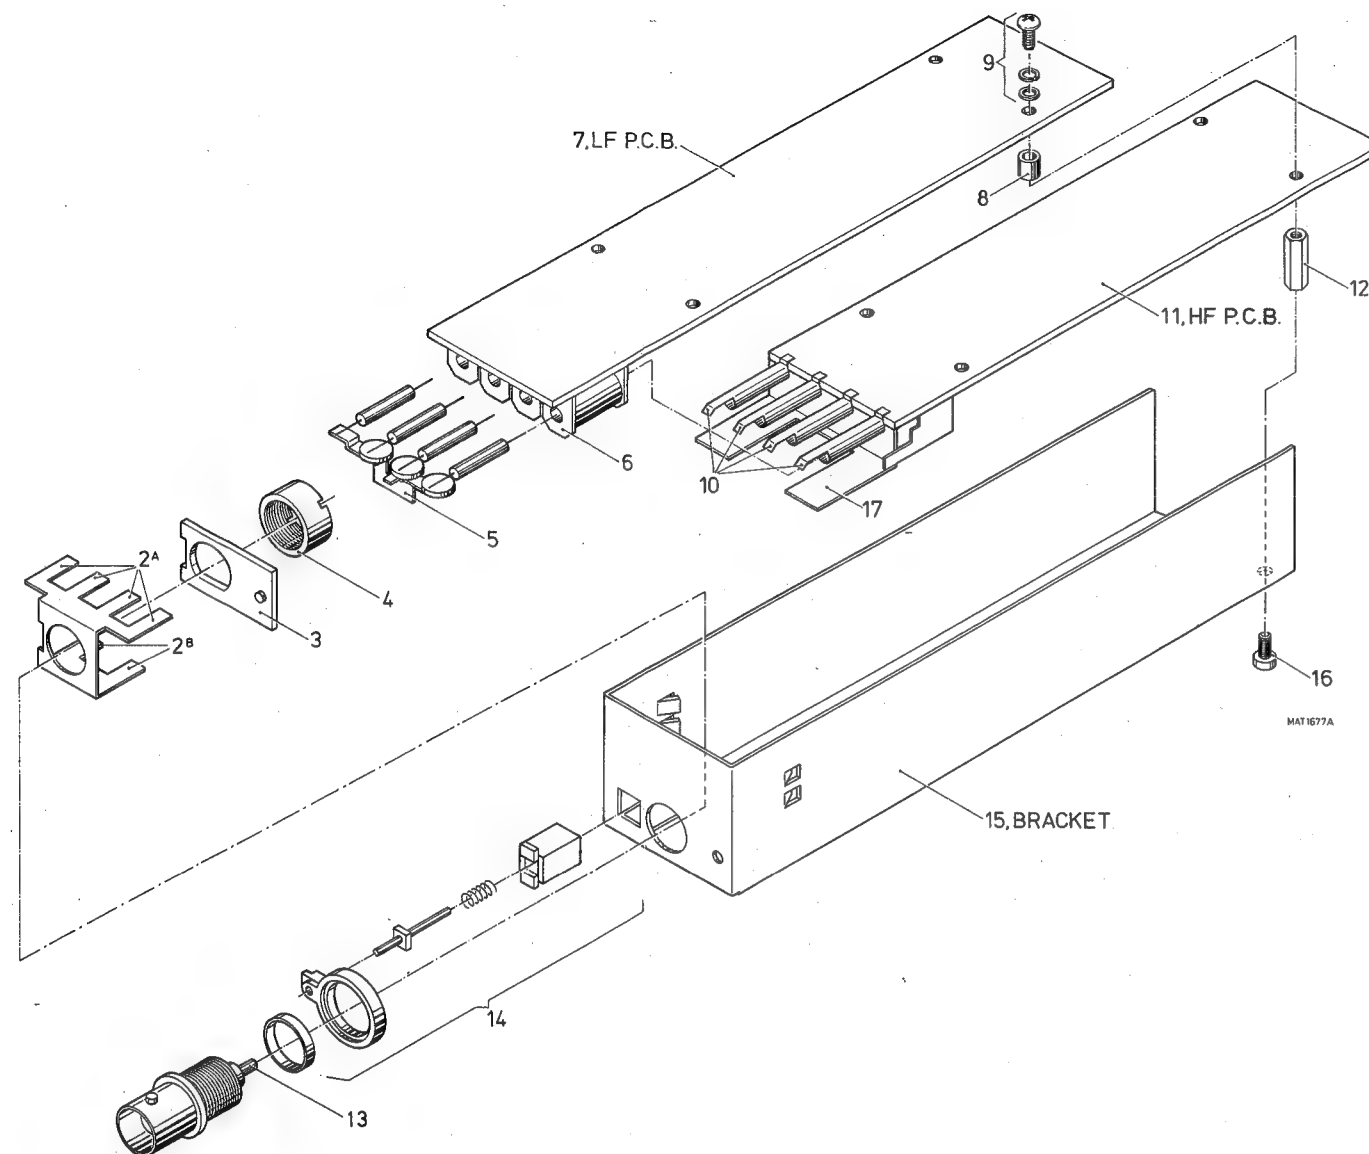

Fig 26.4. Exploded view of attenuator unit.
**IMPORTANT:** it is strongly recommended to take notice of this chapter and belonging figure 26.4. before starting the job.
- Put the unit on your bench with the LF-p.c.b upwards and unsolder the four screening cans (10) from the tags of the earth bracket (2A).
- Unsolder the wire of the probe indicator from the soldering tag on the LF-p.c.b. Put the unit on your bench with the HF-p.c.b. upwards and unsolder the two tags (2B) of the input earth bracket from earth bracket (17).
- Put the unit on your bench with the HF-p.c.b. upwards and unsolder the BNC-signal tag (13) from the bracket with the input capacitors (5): this must be done very quickly and close to the BNC in order to avoid that the input capacitors get too hot.